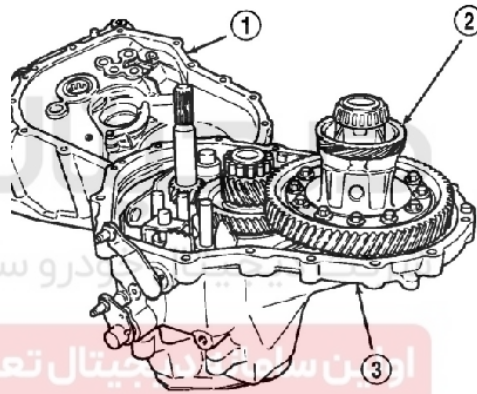

Figure 3-39 Disassembly of outer race
(6) Remove the outer race out of gear box (Figure 3-39).